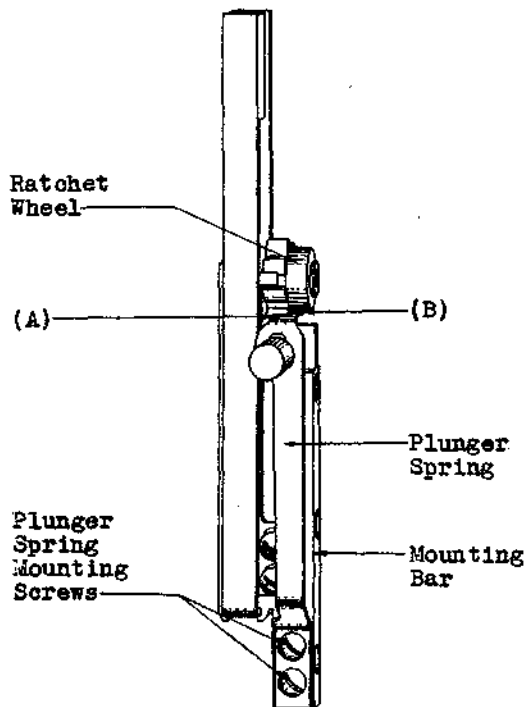

Fig. 4
(d) Fig. 4 (A) - With the play of the ratchet wheel taken up in a clock-wise direction, the engaging end of the plunger spring shall engage the straight face of any ratchet tooth as follows:
(e) Fig. 4 (B) - As the plunger is operated, the curved surface at the end of the plunger spring shall squarely engage the circular portion of the ratchet wheel. Gauge by eye.